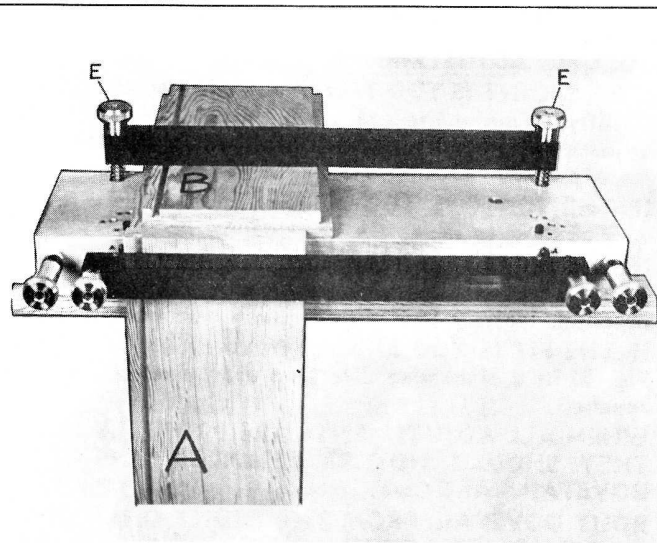

Fig. 11
Insert board (A) between front clamping bar and front surface of dovetail base with bottom edge toward left stop screw. Temporarily clamp board (A) "inside-out" to the left front of the fixture so that it extends above the base (See Fig. 11). This is done to assist in properly positioning of board (B).